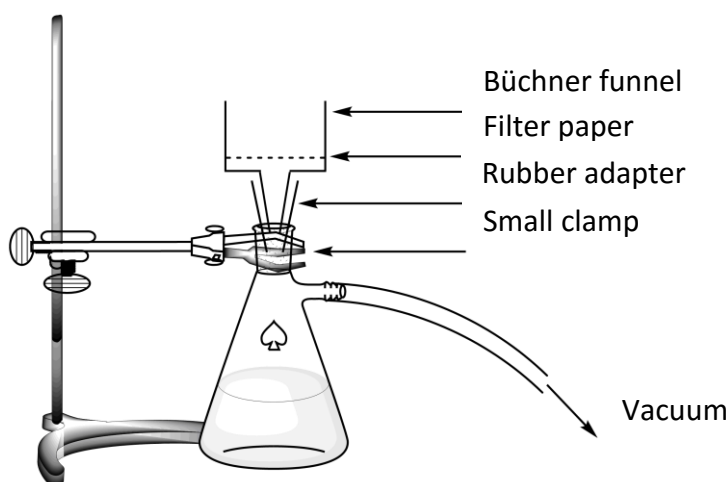

Figure 2. Setup for the vacuum filtration
7. **Set up** a vacuum filtration apparatus (see Figure 2) using a Büchner funnel, a filter paper, and a suction flask, that is secured to the laboratory stand with a small clamp. **Raise** your HELP card. A lab assistant will come and show you how to connect the suction flask to the vacuum source.